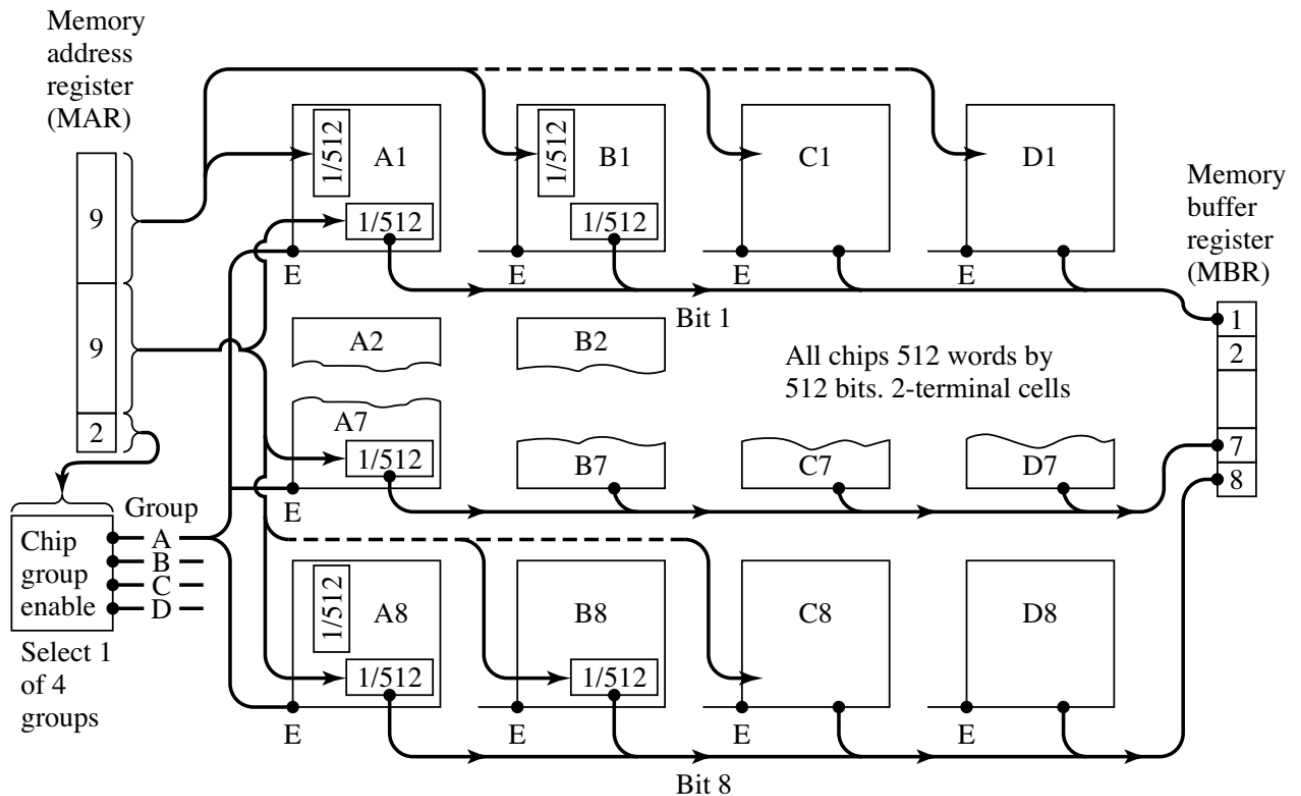

Figure 5.6 1-Mbyte Memory Organization
- Figure 5.6 indicates how to construct a module of chips that can store 1 MByte based on a group of four 256-Kbyte chips. Let's say this module of chips is packaged as a single 1-Mbyte chip, where the word size is 1 byte. Give a high-level chip diagram of how to construct an 8-Mbyte computer memory using eight 1-Mbyte chips. Be sure to show the address lines in your diagram and what the address lines are used for.